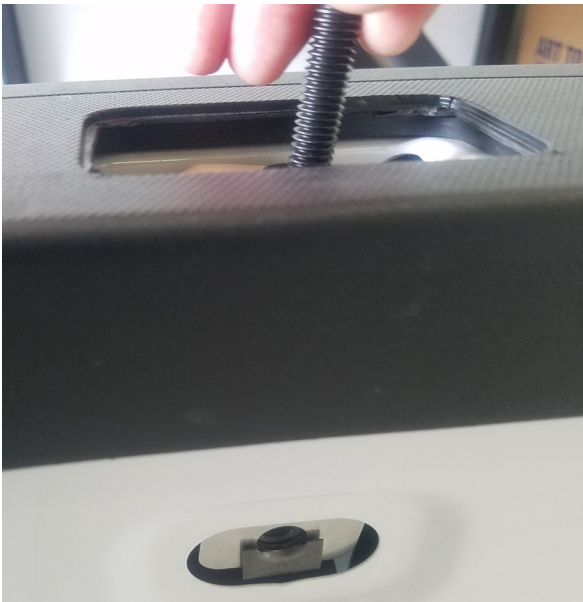

Figure 2: Lowering bracket into pocket. Nut clip facing into bed (touching bed wall) and centered in opening.
3. Thread the 3.25" long bolt into the bracket assembly, and lower it into the front stake pocket. **NOTE: Some brackets are driver/passenger side specific!** Make sure nut clip is facing into the bed of the truck, and is centered in hole of bed wall (**Figure 2**).